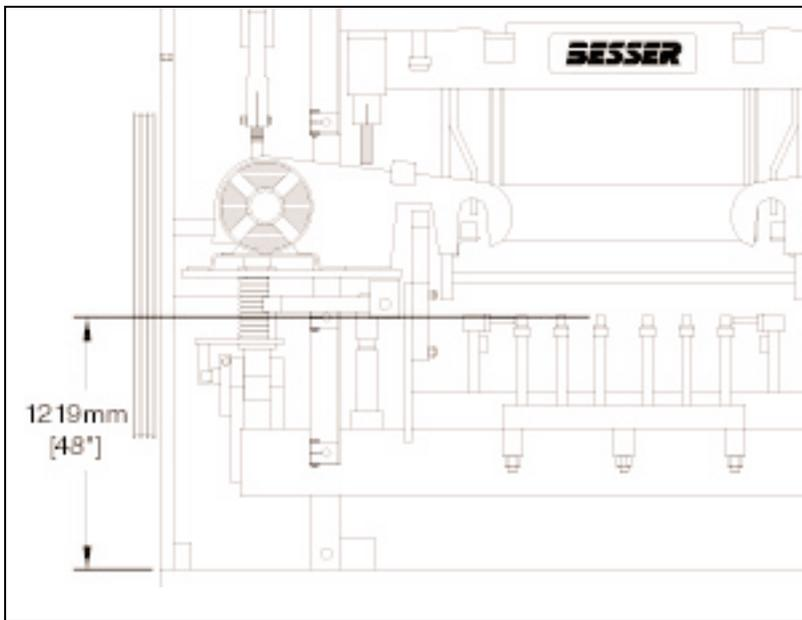
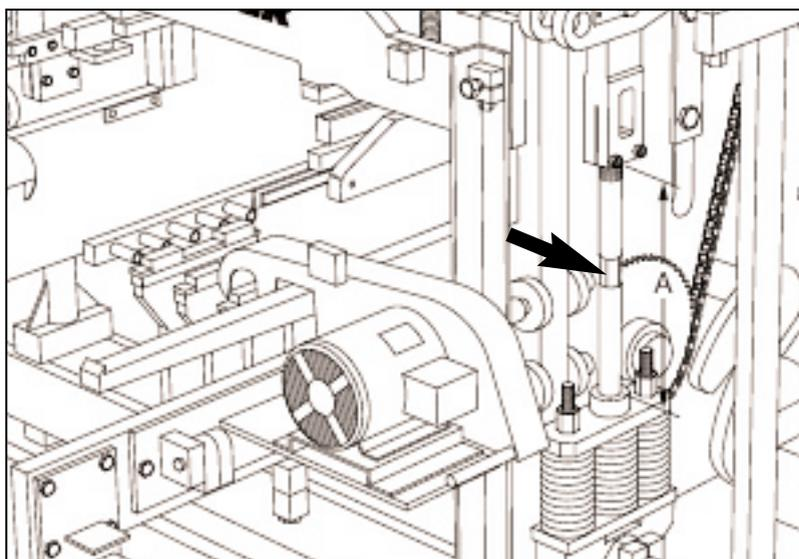

Figure 4.58 PALLET RECEIVER RUBBERS ABOVE BASE PLATE.
Figure 4.59 LINK ROD.
4.4.5 Run machine to "first stop" and adjust the pallet receiver links to obtain a dimension of **1219mm [48"]** from the top of the base plate to the tops of the pallet receiver rubbers (see figure 4.58). This adjustment should expose approximately **600mm [23 5/8"]** of link rod between the upper link end and the boss on the spring assembly (see dimension "A" on figure 4.59).